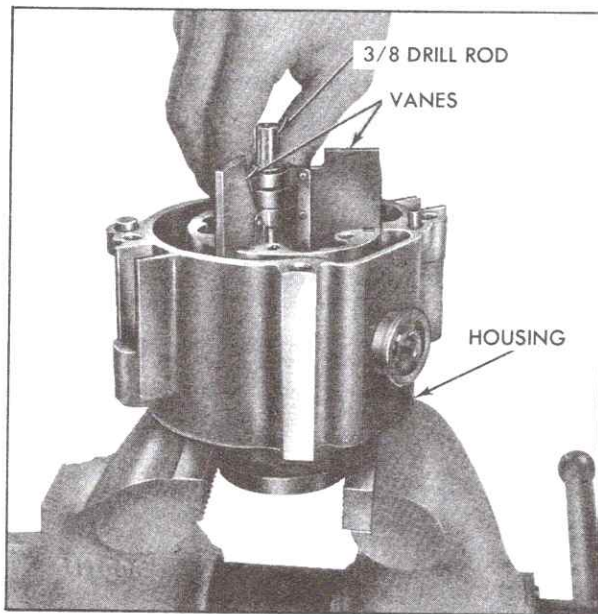

Fig. 6-158 Positioning Vanes and Vane Bearings
6. Use pencil or 3/8 inch drill rod to keep vanes aligned and remove vanes from rotor, Fig. 6-158.
1. Using pencil or 3/8 inch drill rod to position vanes, install vanes in rotor, Fig. 6-158.